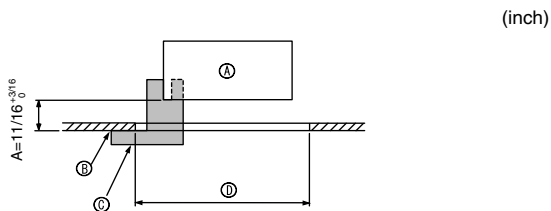
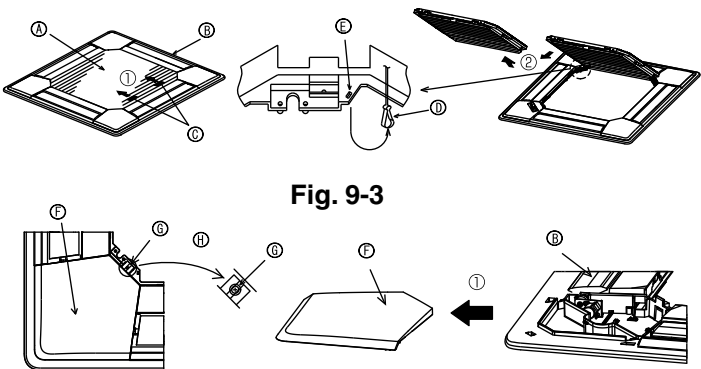

Fig. 9-2
Fig. 9-3
①	Grille	1	950 × 950 (mm), 37-3/8 × 37-3/8 (inch)
②	Screw with captive washer	4	M5 × 0.8 × 25
③	Gauge	1	(Divided into four parts)
④	Fastener	3
⑤	Screw	4	4 × 8
⑥	Screw	1	4 × 12
9.2. Preparing to attach the grille (Fig. 9-2)
- With the gauge ③ supplied with this kit, adjust and check the positioning of the unit relative to the ceiling. If the unit is not properly positioned relative to the ceiling, it may allow air leaks or cause condensation to collect.
- C Gauge ③ (inserted into the unit)
9.2.1. Removing the intake grille (Fig. 9-3)
- Slide the levers in the direction indicated by the arrows ① to open the intake grille.
- With the intake grille in the "open" position, remove the hinge of the intake grille from the grille as indicated by the arrows ②.
[Fig.9-3] [Fig.9-4]